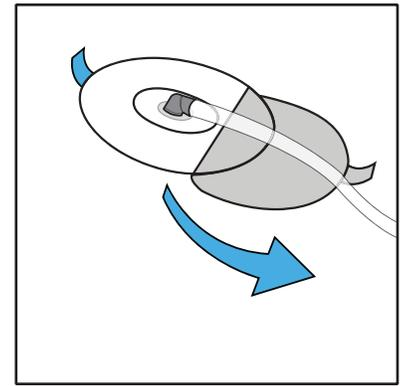

Figure 17
7. Peel off the SpeedConnect™ backing to expose the adhesive pad and place over hole made in Step 6 (**Figure 17**). Using the tips of the fingers, gently press around the Irrigation SpeedConnect™ to ensure a good seal to the dressing.